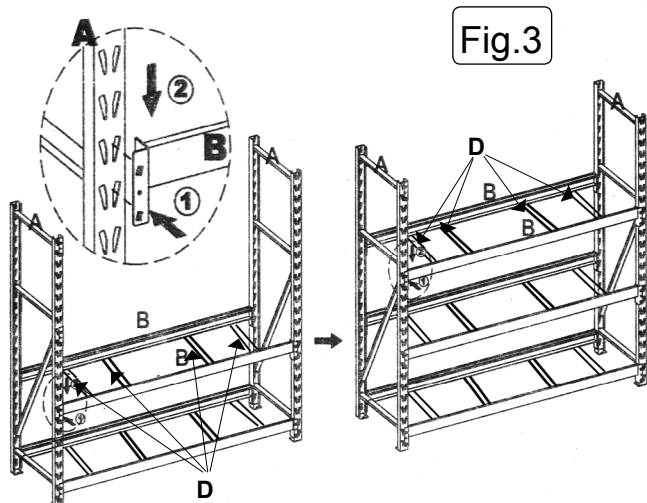

Fig.3
4.4 See Fig.3. Continue to assemble the next two pairs of cross beams at the heights required. The end frames allow adjustment in 3" increments. Each pair of beams must be mounted at the same height. Ensure that all tabs on the cross beam brackets are fully engaged in the slots in the uprights and that the cross beams are properly tapped down into place.